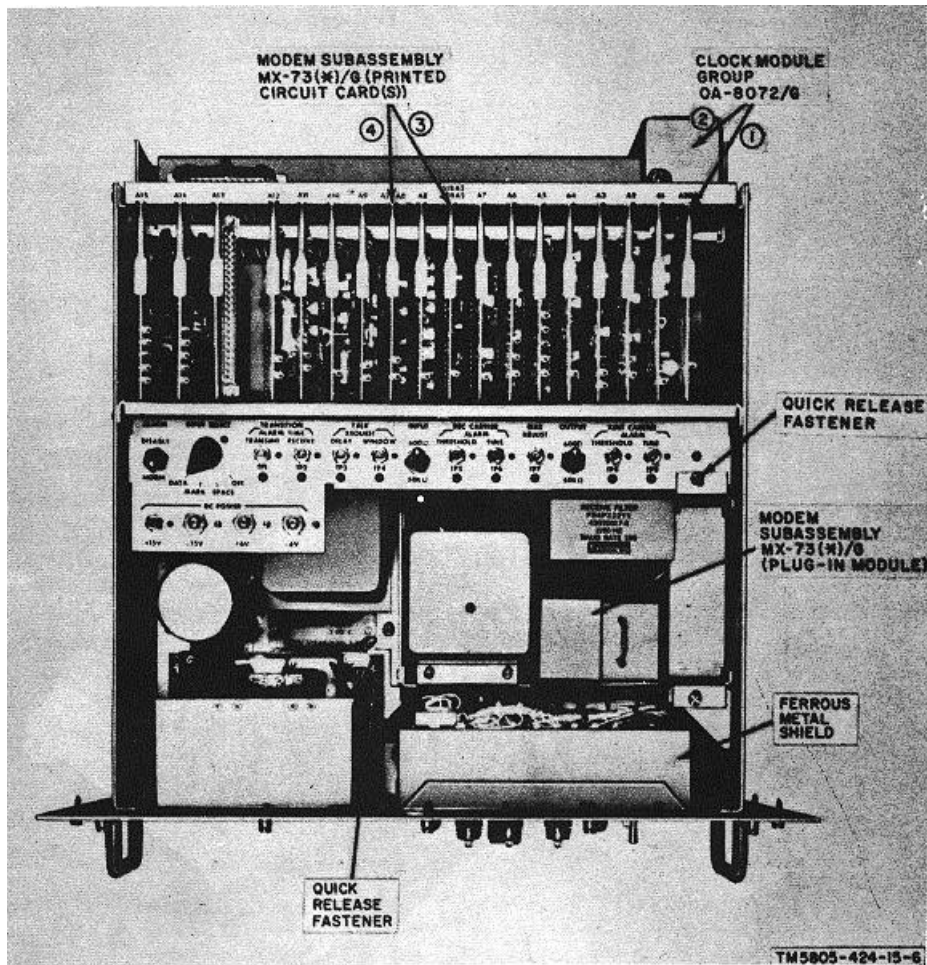
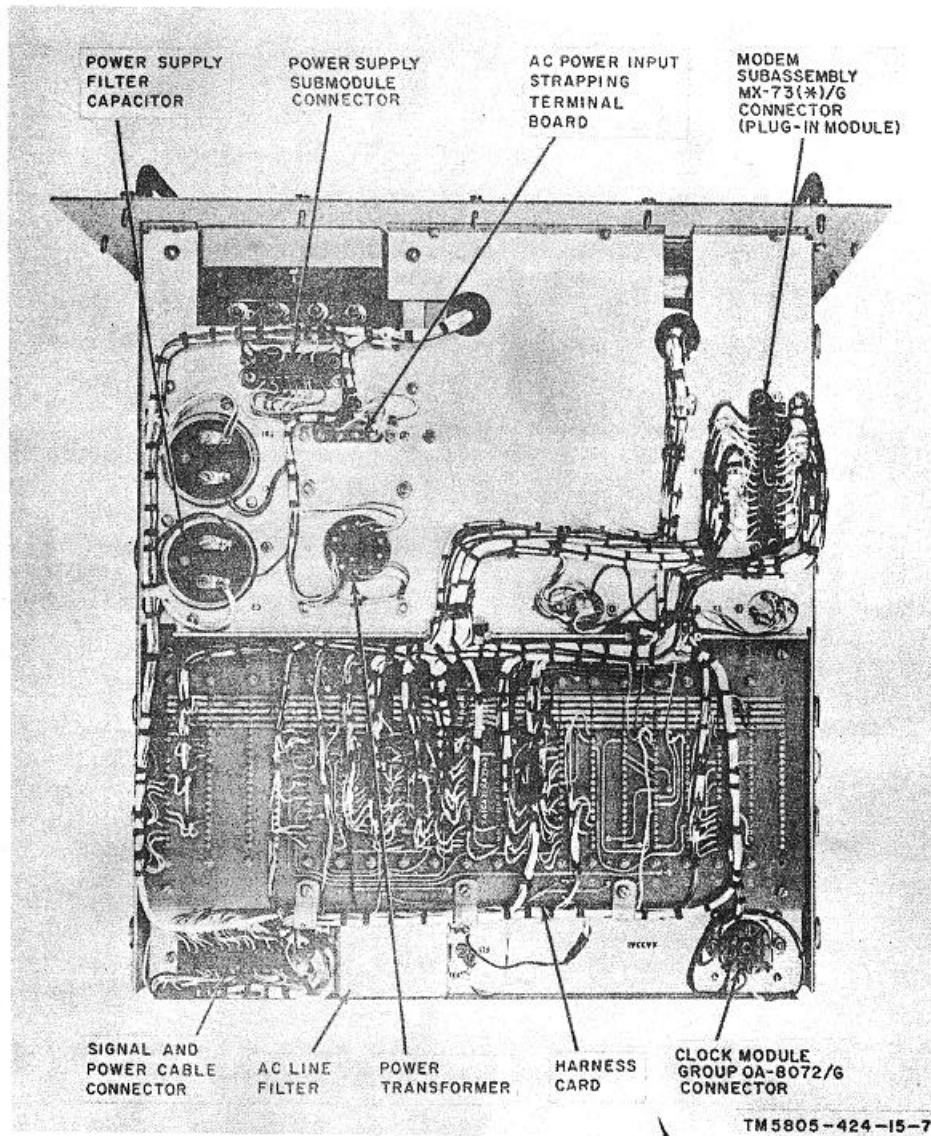
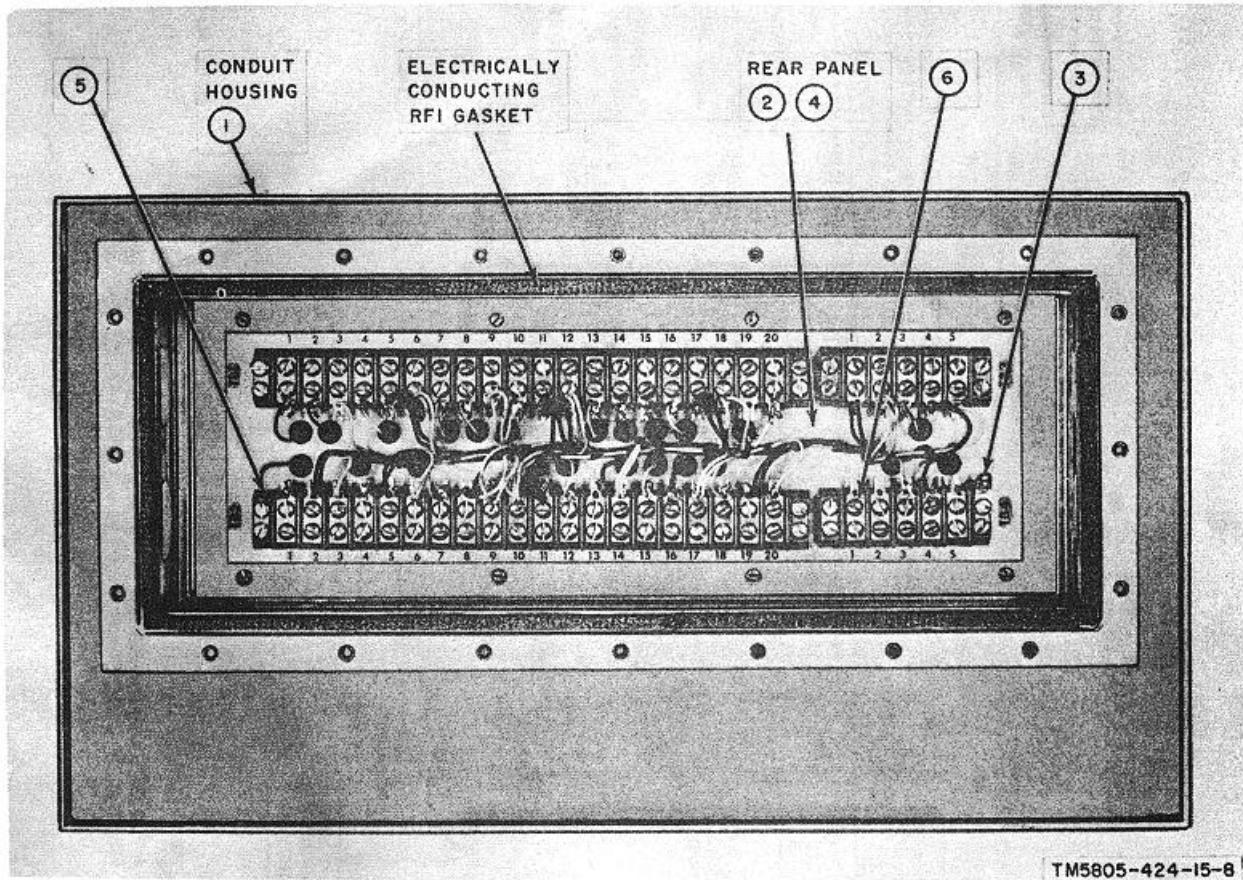

Figure 1-6. Modem, Low Speed Wire Line MD-74(P)/G removed from case, top view, with Modem Subassembly MX-73(\*)/G and Clock Module Group OA-8072/G installed.
Figure 1-7. Modem , Low Speed Wire Line MD-674(P)/G removed from case, bottom view.
Figure 1-8. Modem, Low Speed Wire Line MD-674(P)/G, rear view, less access cover.
card nest (fig. 1-6) contains all operating printed circuit cards. Special compartments are provided for the MX-73(\*)/G and the OA-8072/G (fig. 1-6). The bottom view of the MD-674(P)/G is shown in figure 1-7 and the rear view is shown in figure 1-8.
a. *AC Power.* Determine the type of alternating current (ac) power to be used and be sure that only the required strapping ((1) or (2) below) is used.
(1) *115 volts.* Connect a strap between terminals 1 and 2, and terminals 3 and 4 on the ac power input strapping terminal board (fig. 1-7).
(2) *230 volts.* Connect a strap between terminals 2 and 3 of the ac power input strapping terminal board (fig. 1-7).
a. *General.* All signal and power connections to the MD-674(P)/G are made to the terminal boards on the rear of the chassis when the access cover is removed (fig. 1-8). Determine the installation requirements and the number of cable runs to be used, and punch out the required holes with a Greenly punch. Determine the type of wiring required from the chart below, and connect the equipment as required in *b*, *c*, or *d* below.